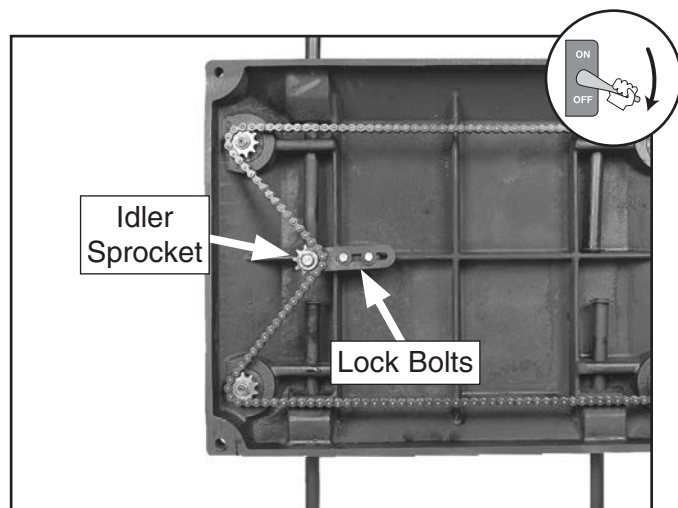

Figure 35. Table height idler sprocket and lock bolts (viewed from underneath the planer base).
2. Remove the front and rear cabinet panels to gain access to the table height chain system underneath the table, as shown in **Figure 35**.
3. Loosen the lock bolts shown in **Figure 35**, and push the idler sprocket against the chain with moderate hand pressure, then while maintaining the pressure on the idler sprocket, re-tighten both lock bolts.